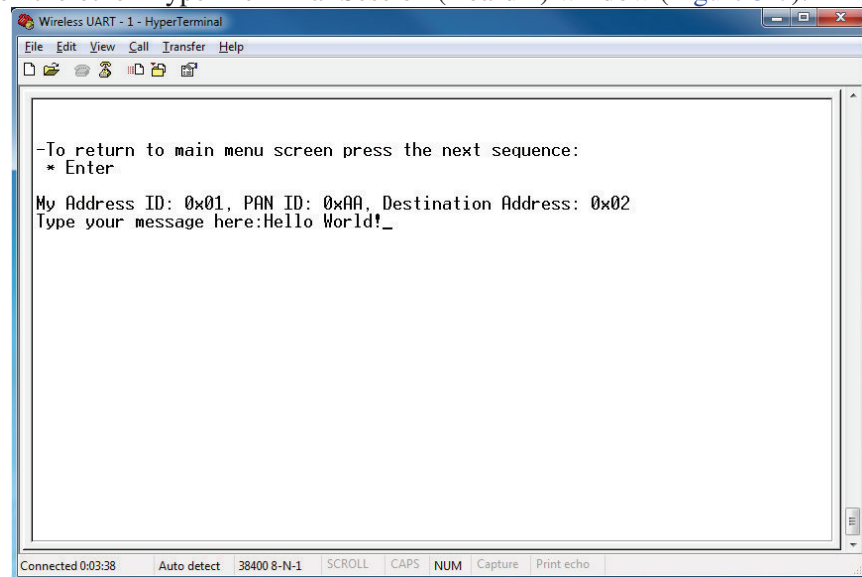
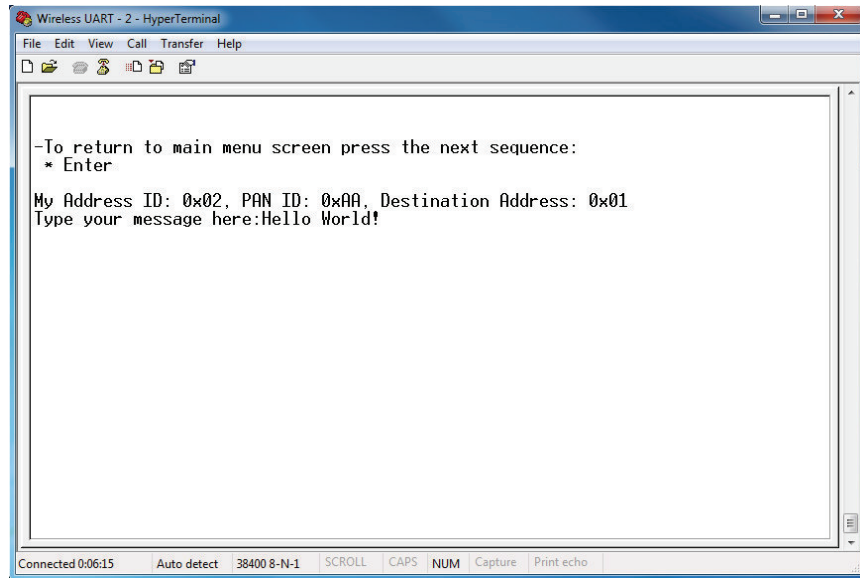

Figure 3-6. Typing Message on Board 1
Figure 3-7. Received Message on Board 2
5. After both boards are configured and set in the “Typing Message Screen”, type some characters in the Hyper Terminal Session (Board 1) window (Figure 3-6) and the typed message should appear on the other Hyper Terminal Session (Board 2) window (Figure 3-7).